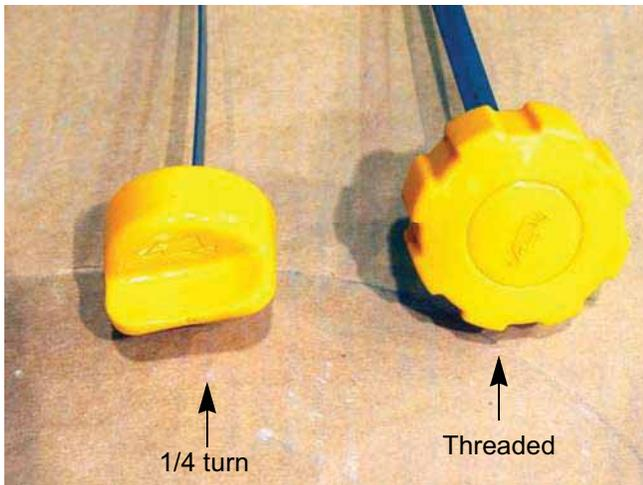

Figure 1.4
**NOTE:** There are two types of dip sticks that can be found on MTD engines; a threaded dip stick that was used on older engines and a quarter turn dip stick that is used on engines currently being produced. See Figure 1.4.